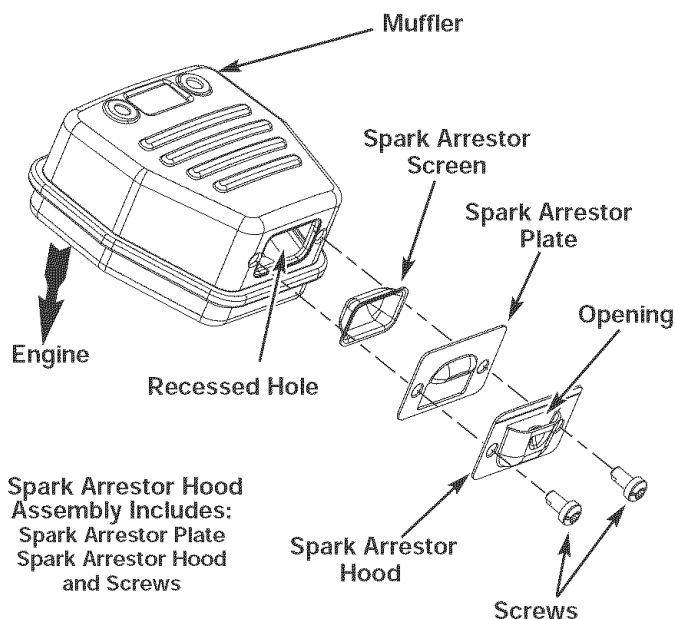

Fig. 29
2. Locate the muffler, but do not remove it. Find the two (2) screws on the bottom of the muffler (Fig. 29). These two screws hold the Spark Arrestor Hood Assembly and the spark arrestor screen to the bottom of the muffler. Remove the two (2) screws using either a torx #20 or flat blade screwdriver.
6. Place the spark arrestor plate on top of the spark arrestor with the "raised" side up and the opening facing towards the engine (Fig. 29).
7. Place the spark arrestor hood on top of the spark arrestor plate with the "raised" side up and the opening facing AWAY from the engine (Fig. 29). Verify that the exhaust will be directed AWAY from the engine.